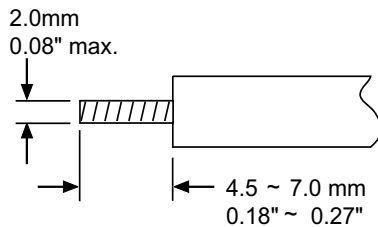

Fig. 4.2 Lead Termination
- * The " stripped " leads as specified in Figure 4.2 below are used for power and sensor connections.